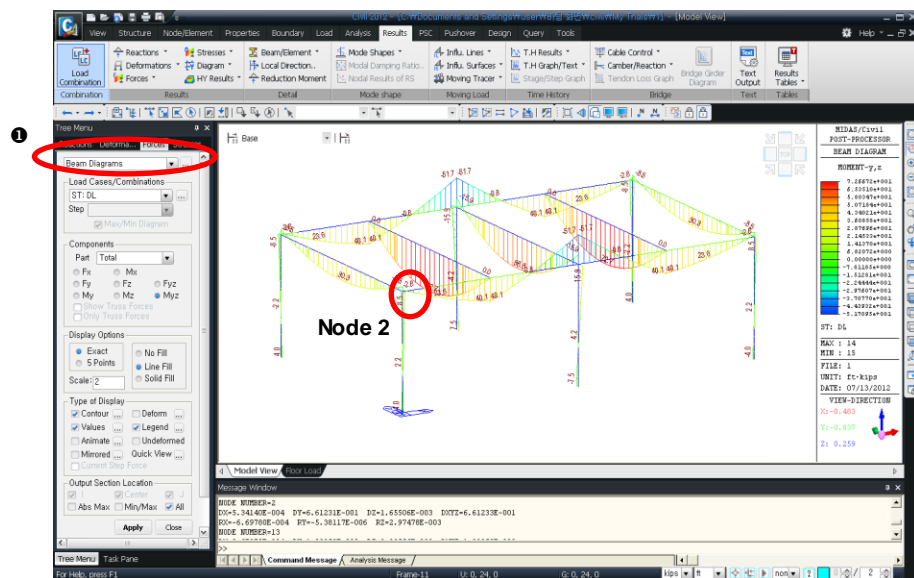

Figure 1.32 Bending Moment Diagram
1. Select **Beam Diagrams** from the functions selection field (Fig.1.32–①).
4. Magnify partially node 2 in Fig.1.32 by **Zoom Window**.